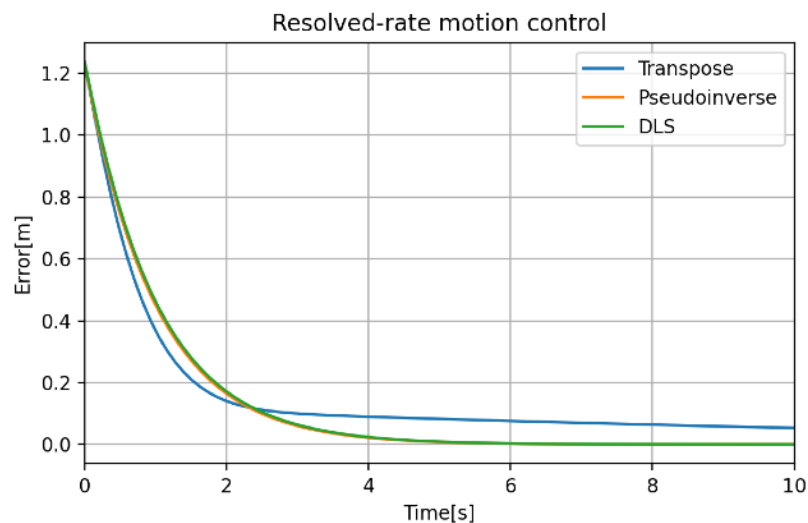

Fig 3. Evolution of the control error.
- 3) Plot presenting the evolution of the control error norm over time, for all three methods used to solve the control problem (on one plot!), see Fig. 3. It can be achieved by saving the output of three simulations (saving the Numpy arrays to files), all with the same initial conditions and desired end-effector position, using different solution methods. The files can then be loaded by a simple program and the data plotted.